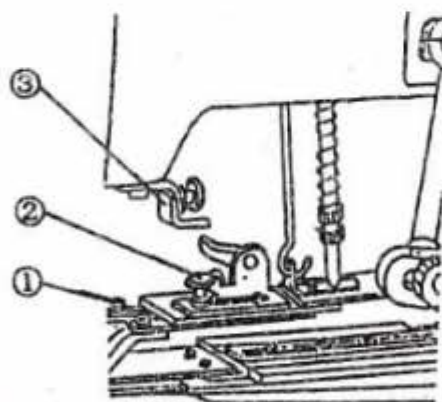

图 12 Fig.12
7、钮夹的调整(见图 12)
7. To adjust button clamp (as shown in Fig.12).